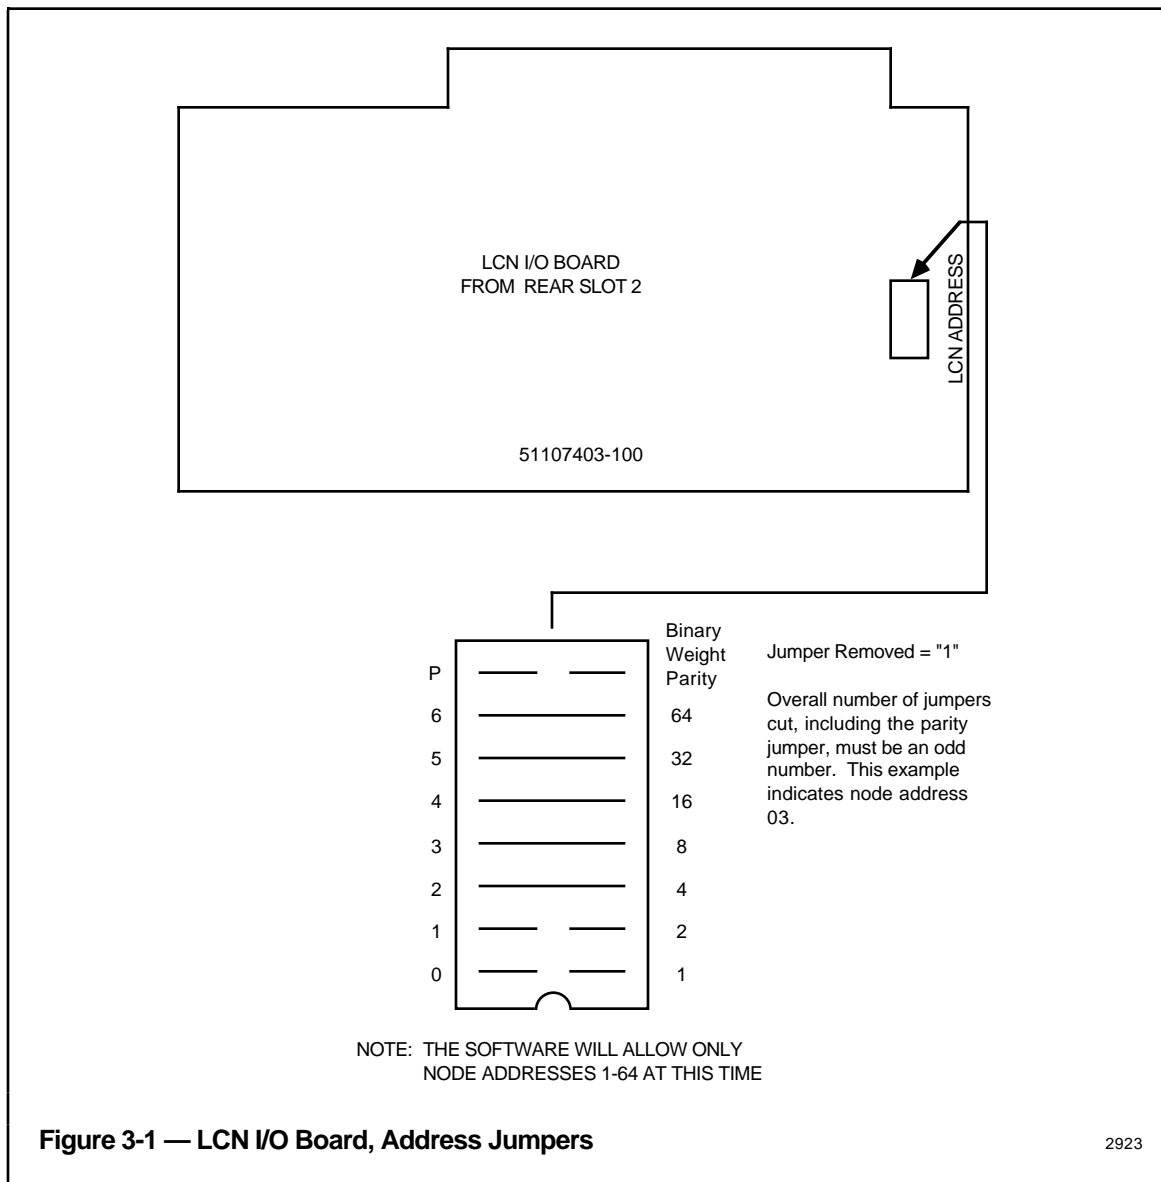

Figure 3-1 — LCN I/O Board, Address Jumpers
1. Remove the LCN I/O paddleboard from rear slot 2 in the PLCG module. Refer to Figure 3-1 for instructions and the location of the pinning header on the LCN I/O board. Pin the node address as shown. Be sure to adjust the parity jumper as required.